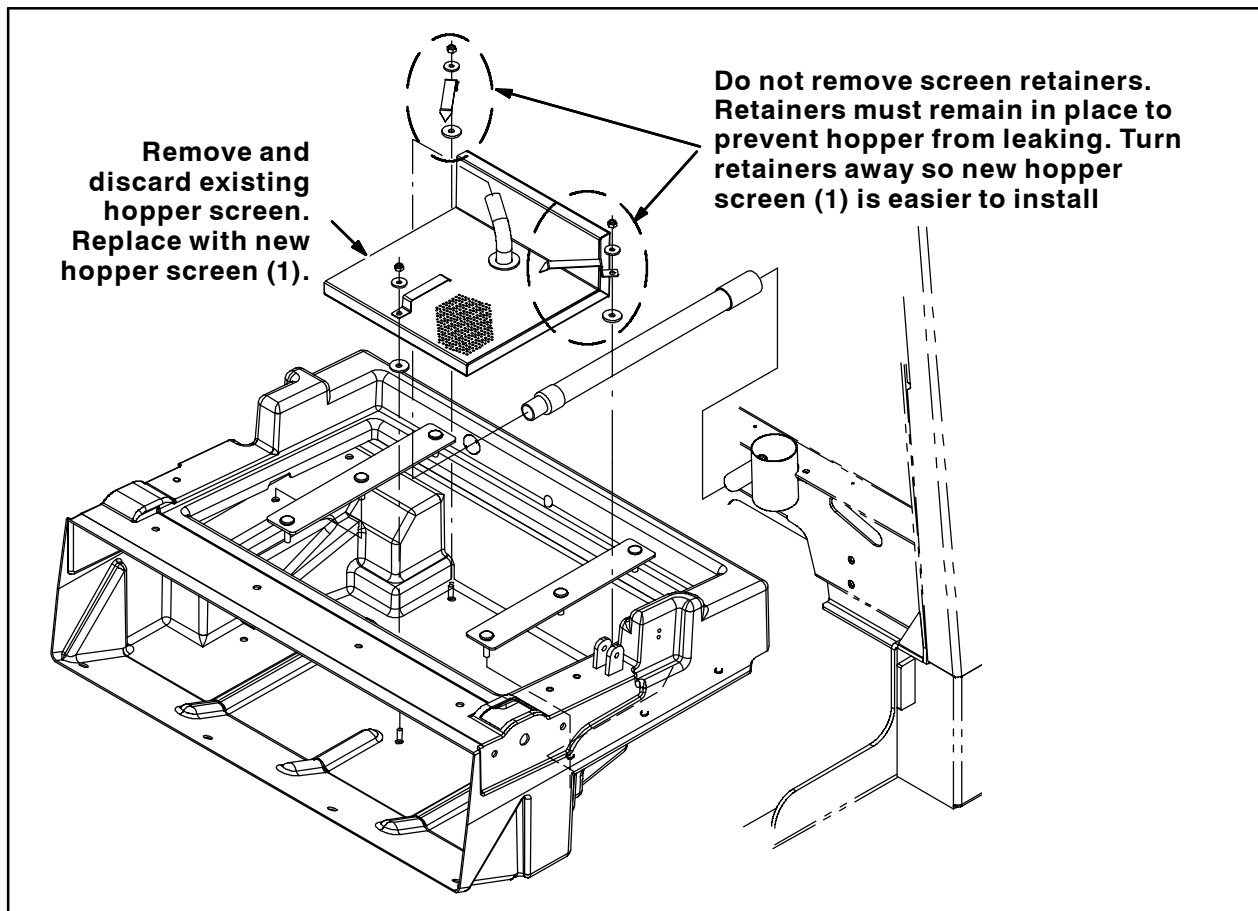
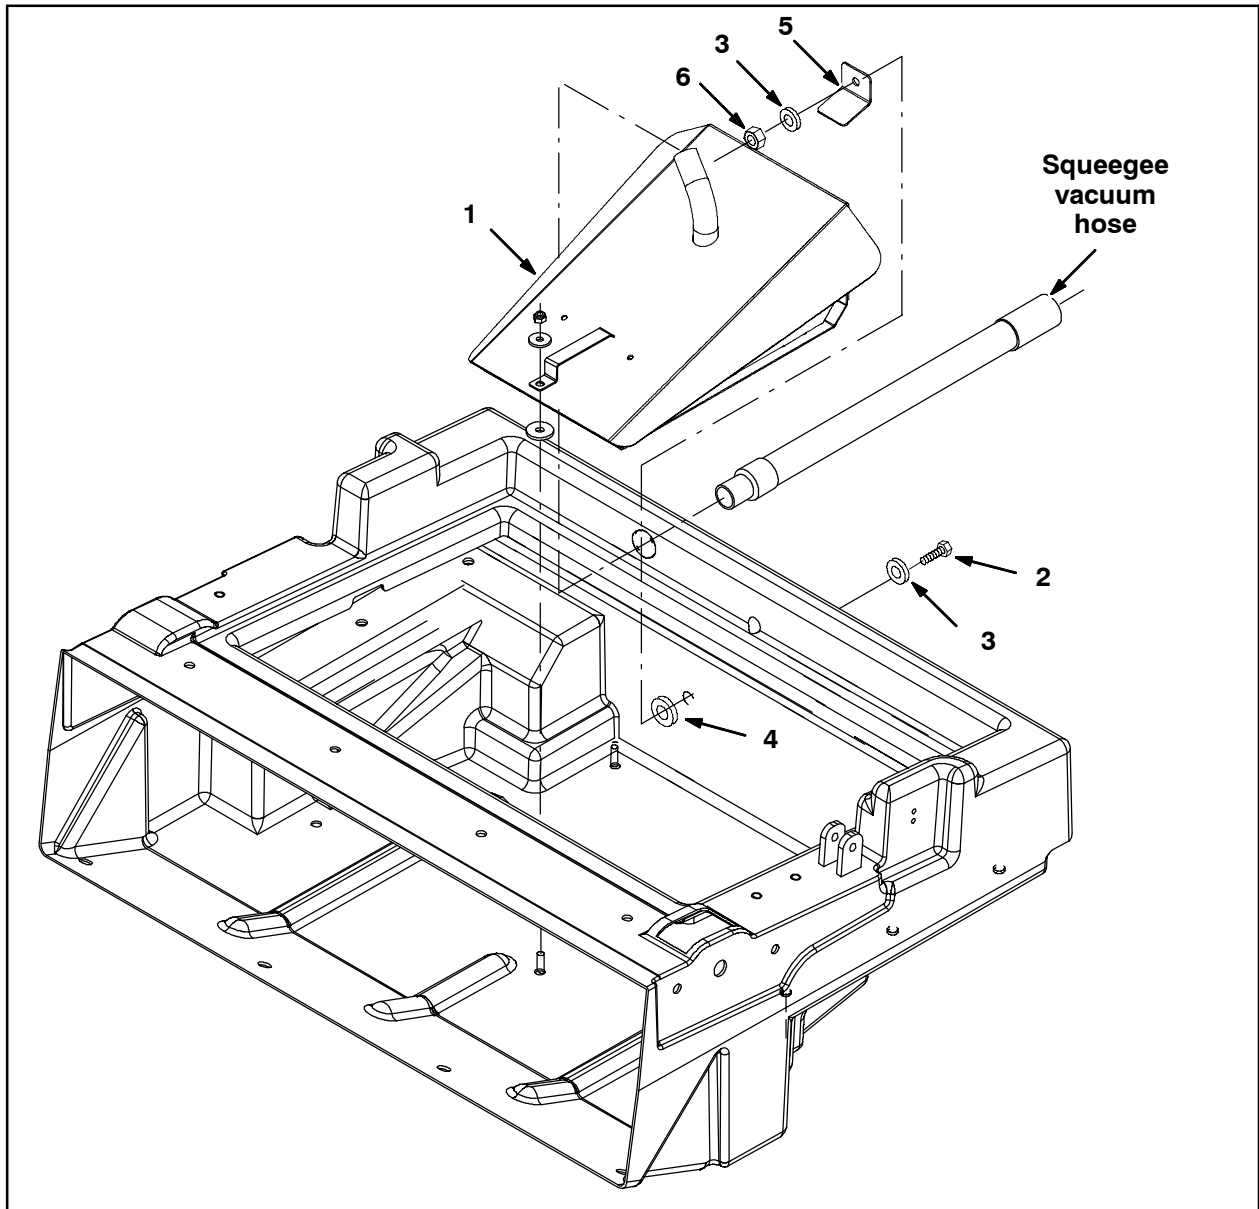
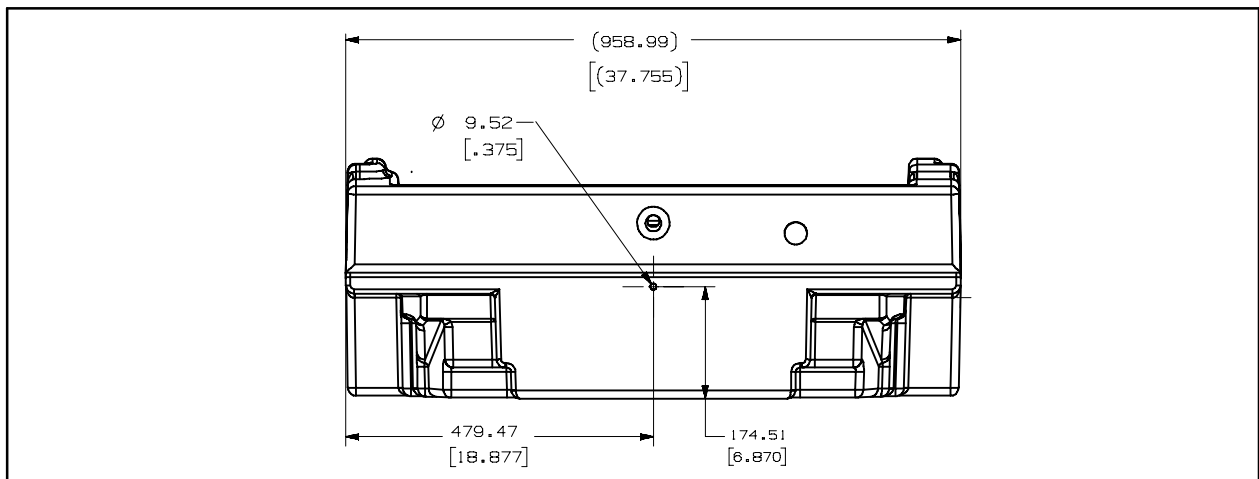

FIG. 2
FIG. 3
FIG. 4
1. Remove the existing hopper screen from the hopper. Discard the hopper screen. Refer to Fig. 2.
2. Turn the hopper screen retainers so they are pointed away from where the new hopper screen (1) will be installed.
3. Place the new hopper screen (1) into the hopper and center the screen between the two hopper screen retainers and up against the rear of the hopper.
4. Position the retainer angle (5) on the hopper screen (1) and against the rear of the hopper. Mark the location of the hole in the retainer angle on the hopper. Refer to Fig. 3 and Fig. 4.
5. Drill a 3/8" hole through the rear of the hopper where the mark was made in the previous step. Refer to Fig. 3 and Fig. 4.
6. Use a hex screw (2), two steel flat washers (3), a rubber washer (4), and a hex nut (6) to mount the retainer angle (5) onto the hopper. Refer to Fig. 3.
7. Center the hopper screen (1) between the two filter screen retainers, up against the rear of the hopper and use the front hopper screen retainer and the retaining (5) angle to secure the hopper screen into the hopper. Refer to Fig. 3.
8. Attach the squeegee vacuum hose to the hopper screen (1).